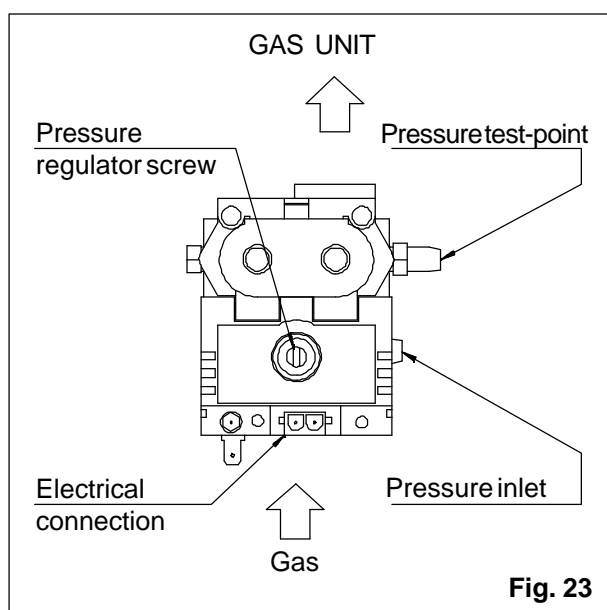

Fig. 23
Insert the water column pressure gauge tube into the pressure outlet on the gas unit (*fig. 23*) after having backed off the set screw a few turns. Start the air heater and check that the pressure at the burner corresponds to what is indicated in the technical data table.
If the pressure of the gas delivered to the burner does not correspond to the value indicated, use the special pressure set screw (*fig. 23*), after
- f) insert the water column pressure gauge tube into the upstream pressure inlet on the burner (*fig. 23*) after having backed off the closing screw a few turns
- g) insert the water column pressure gauge tube into the pressure outlet on the gas unit burner (*fig. 23*) after having backed off the closing screw a few turns. Check that the supply pressure corresponds to what is indicated in the technical data table. If the gas supply pressure to the burner does not correspond to the value indicated, use the pressure regulator (*fig. 23*) to obtain the correct value. Turn counterclockwise to decrease the pressure and clockwise to increase the pressure